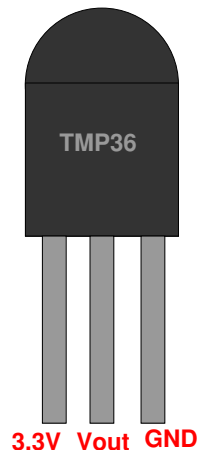

Figure 2: TMP36 Pinout
- WARNING!** the datasheet shows the pins from the *bottom* not the top. If you reverse the power/ground settings on the chip it will quickly heat up to 100+ degrees and will possibly be ruined! Follow the diagram in Figure 2 and you will be OK.